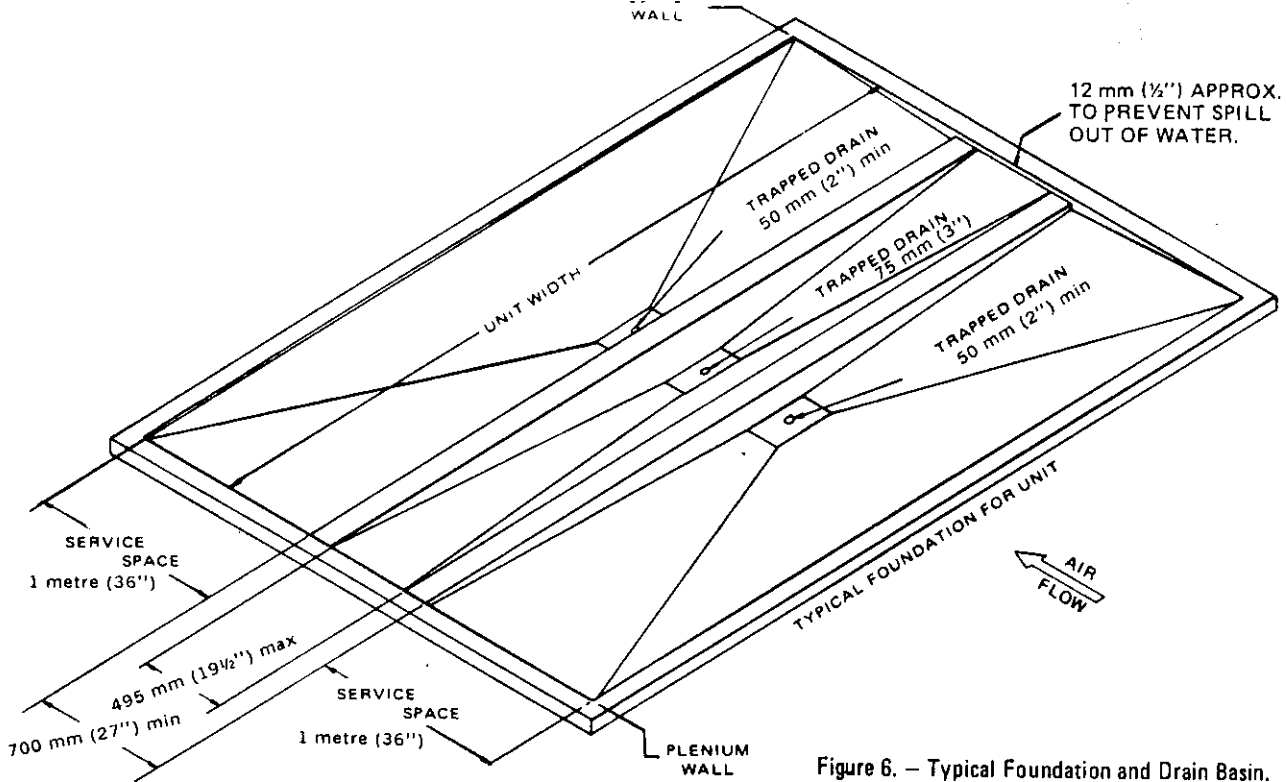

Figure 6. - Typical Foundation and Drain Basin.
9. **Foundations** — A foundation made of concrete is recommended because it will not settle or distort and will remain waterproof. Foundation must be level. If a metal base is used, it should be rigid enough to prevent distortion of the unit, and provided with slotted wooden walkways to assure firm footing for maintenance personnel. See Figs. 6 and 7.
10. **Drains** — These are required on the inlet and outlet air sides and in the centre of the unit. See Figs. 6 and 7. They should be equipped with covers, water seals or traps if they are tied together, to avoid leakage of dirty air into the clean air duct. Water seals or traps should hold enough water to prevent evaporation during the periods between cleanings.